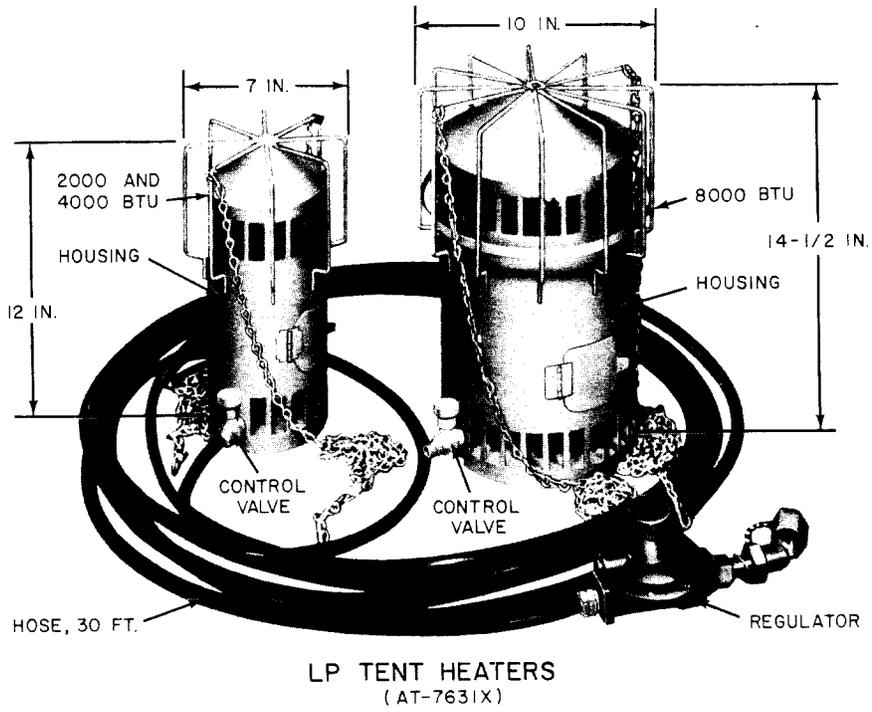

Fig. 4—Propane Tent Heaters
6.01 The 2000, 4000, and 8000 BTU LP-Gas Tent Heaters (Fig. 4) have been discontinued. When necessary to replace heaters, the B LP-Gas Tent Heater should be ordered.